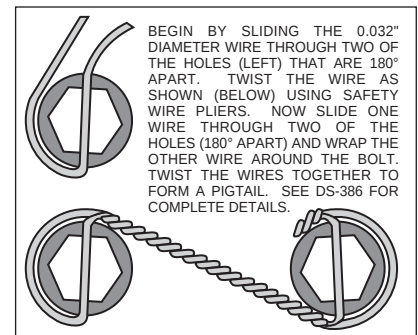

Figure 4. Safety Wire Diagram
•Attach rotor adapter (10) to rotor (11) using six bolts (12). Apply red *Loctite*® 271 to the threads and torque bolts (12) to 25 ft-lb. For an added measure of security, the bolts may be safety wired using standard 0.032 inch diameter stainless steel safety wire as shown in Figure 4. Please refer to Wilwood's data sheet DS-386 (available at www.wilwood.com/Pdf/DataSheets/ds386.pdf) for complete safety wire installation instructions.